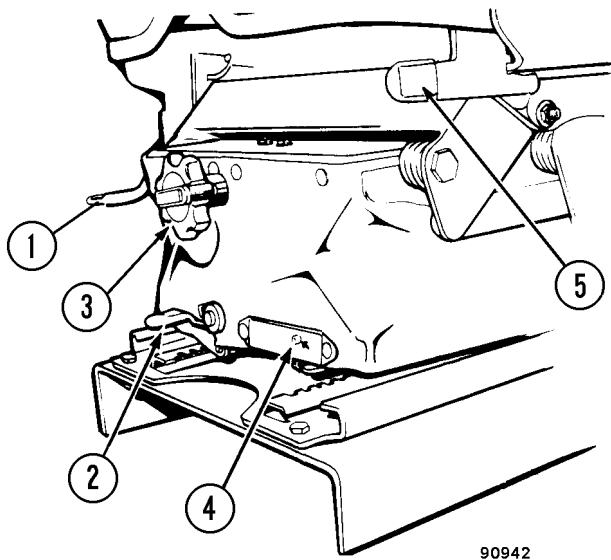
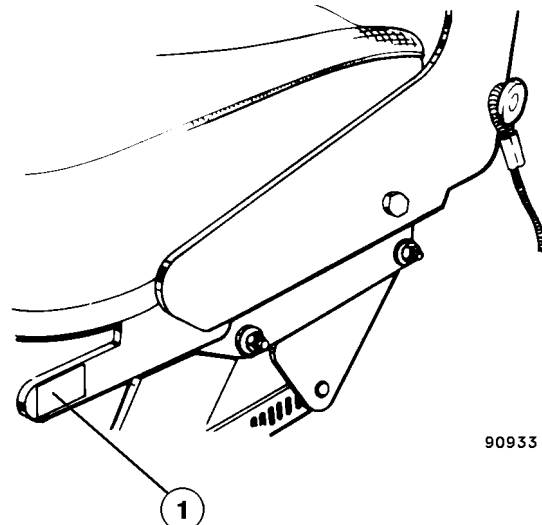

FIGURE 3-3. SEAT ADJUSTMENT
FIGURE 3-4. SEAT TILT LATCH
- a. Raise adjustment lever "Lift to Slide" (2, Figure 3-3).
- a. Depress the "Height Adjust " lever (1).
- a. Turn knob "Weight Adjust" (3).
- c. Proper adjustment results in Weight Indicator (4) being flush with seat base while operator is seated.
- a. Raise "Cushion Tilt Latch" lever (1, Figure 3-4) on left side of seat.